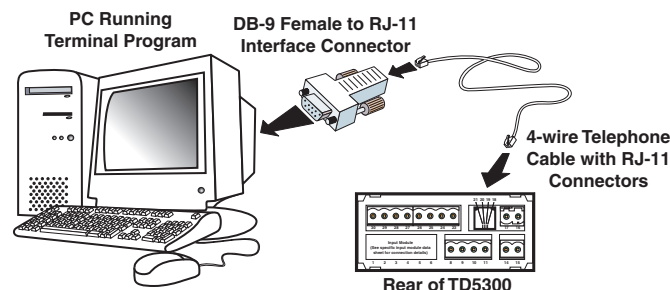

Figure 9 – RS-232 Hardware Connections
The following hardware is required to set the TD5300 up for simple RS-232 communications (see Figure 9):
- Standard 4-wire cable with male RJ-11 connectors (see Figures 9 and 10, and Tables 5 and 6 for a wiring diagram and pin descriptions).
Figure 9 shows a simple RS-232 connection between a TD5300 controller and a PC.
See also Figures 9, 10, 11, 12 and Tables 5 and 6.